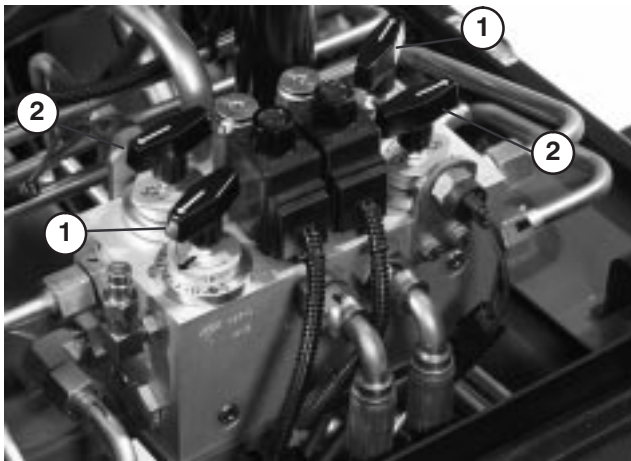

Figure 70
3. Locate the reel speed selector knobs and backlap knobs (Fig. 70). Rotate the desired backlap knob(s) to the backlap position and the desired reel speed selector knob(s) to position “1.”